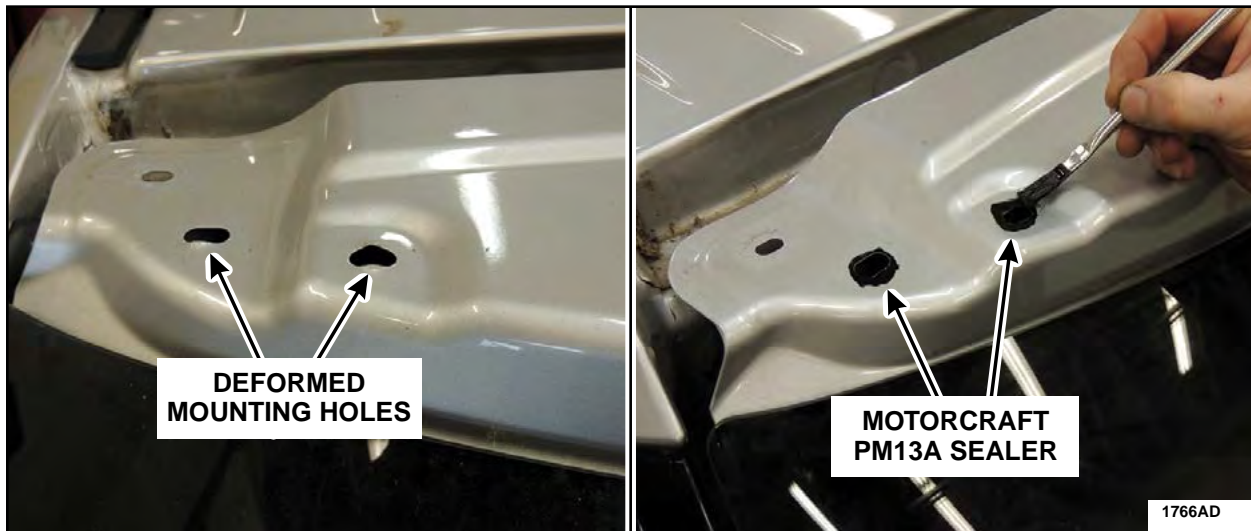

FIGURE 16
8. Using a flat faced hammer, carefully straighten any deformed spoiler retaining clip mounting holes and apply Motorcraft® PM13A sealer. See Figure 16.